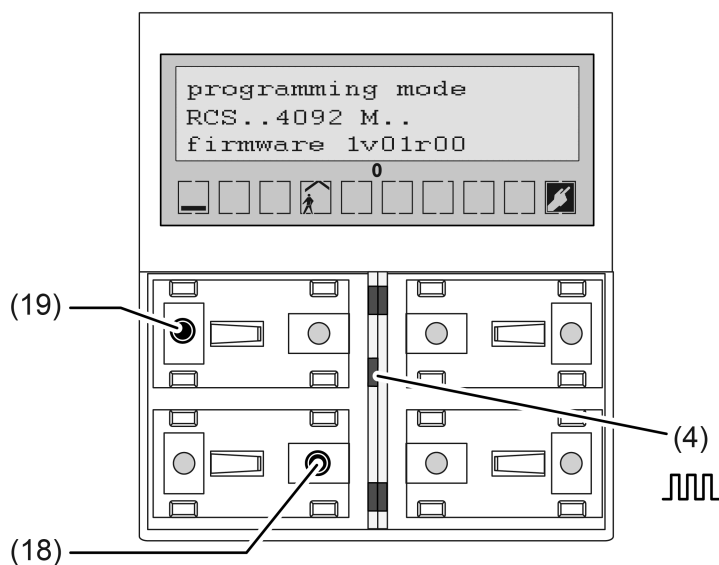

Figure 7: Buttons for activating Programming mode
- Activate Programming mode. Press button at the top left of rocker 1 (19) and keep it depressed (figure 7). Then press the second button at the bottom right of rocker 1 (18). Programming mode is activated. The operation LED (4) flashes quickly (approx. 8 Hz). The text "Programming mode" is shown in the display of the device along with the device type and the version of the device firmware.